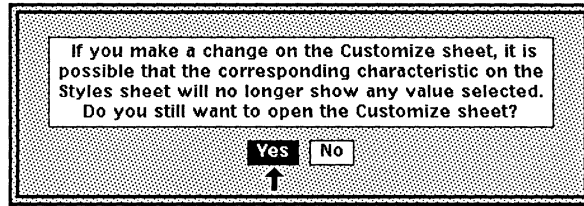

Figure 29-1. The Chart Customize stickup
*You will see a stickup asking you to confirm that you want to open the Customize sheet (Figure 29-1).*